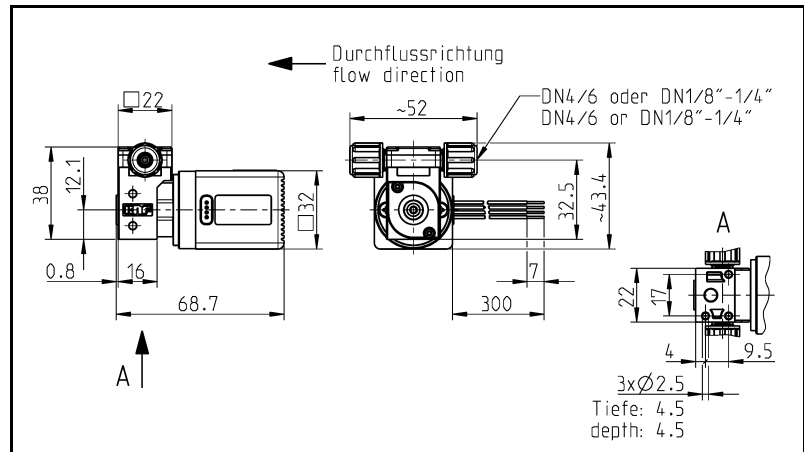

Fig. 5: Mounting dimensions NF 1.25 DCB-4B
- Generally speaking, the pump can be mounted in any installation position. For maximum precision and rapid venting, install pump as shown in the illustration (Fig. 5).